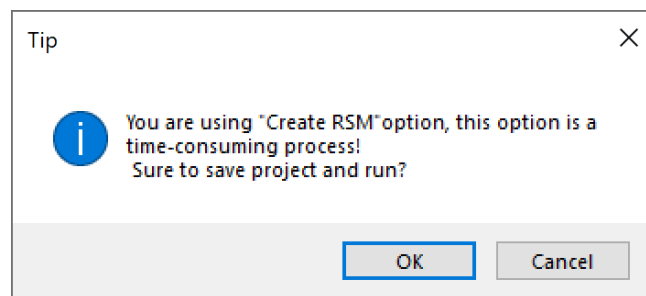

Fig. 21 Save Project and Run
- Click the **Next** button and Fig. 21 will appear, choose **yes** to run the program.